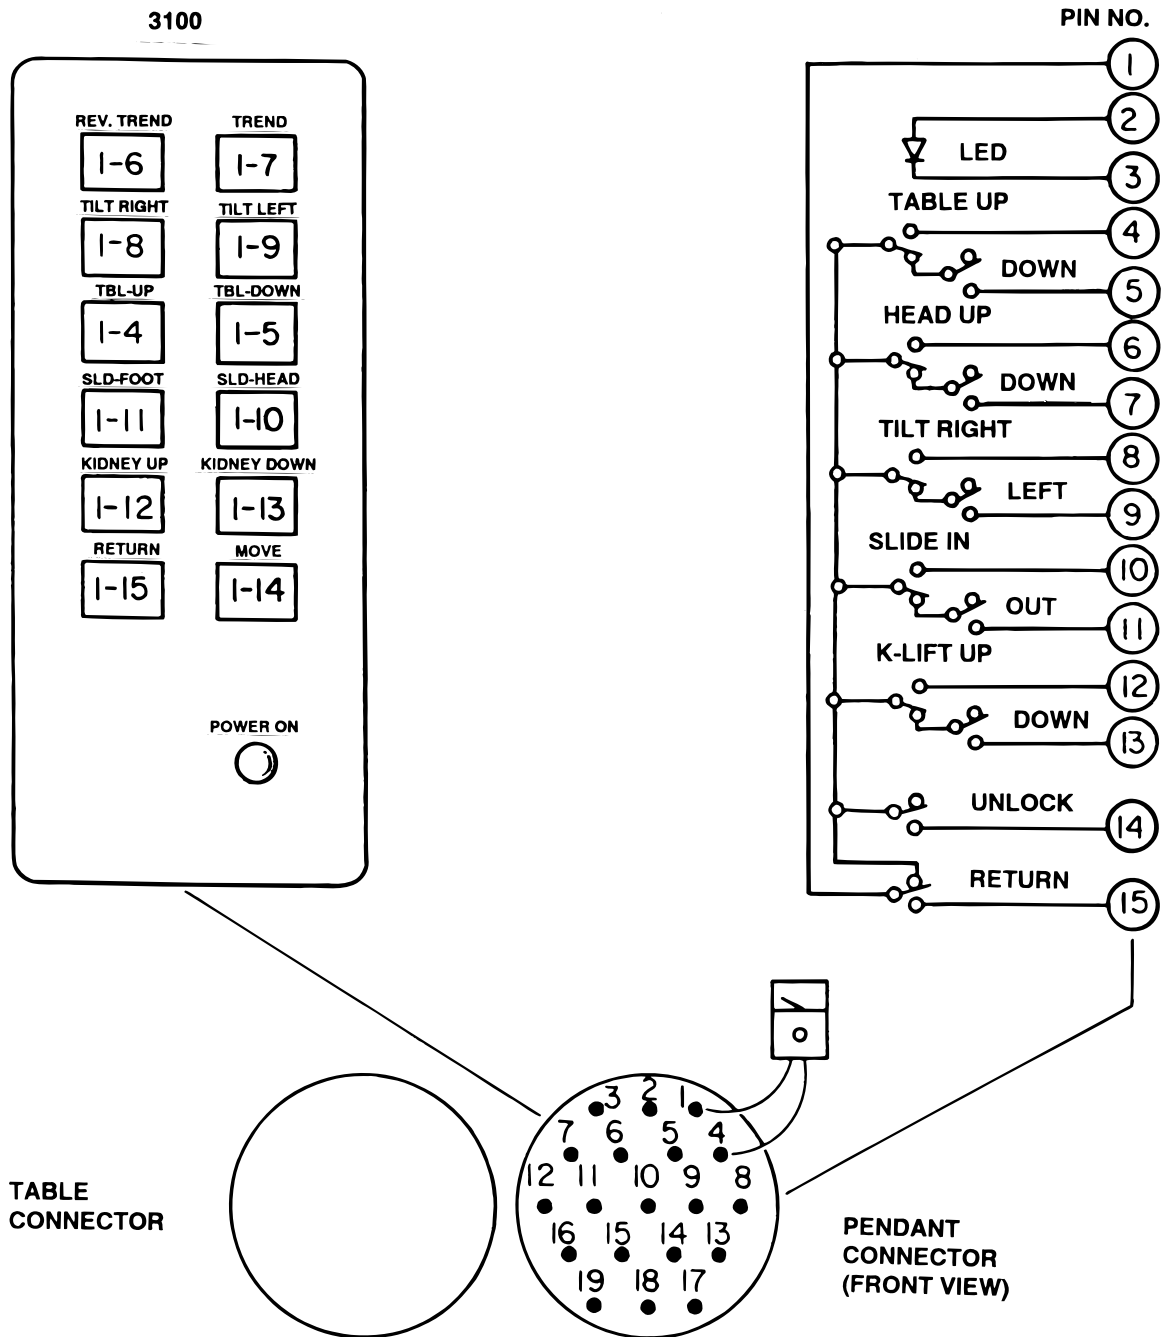

Figure 5-9. Pendant Control Test
2. Use an ohmmeter R x 1 and check the continuity between pins 1 through 16. See figure 5-9.